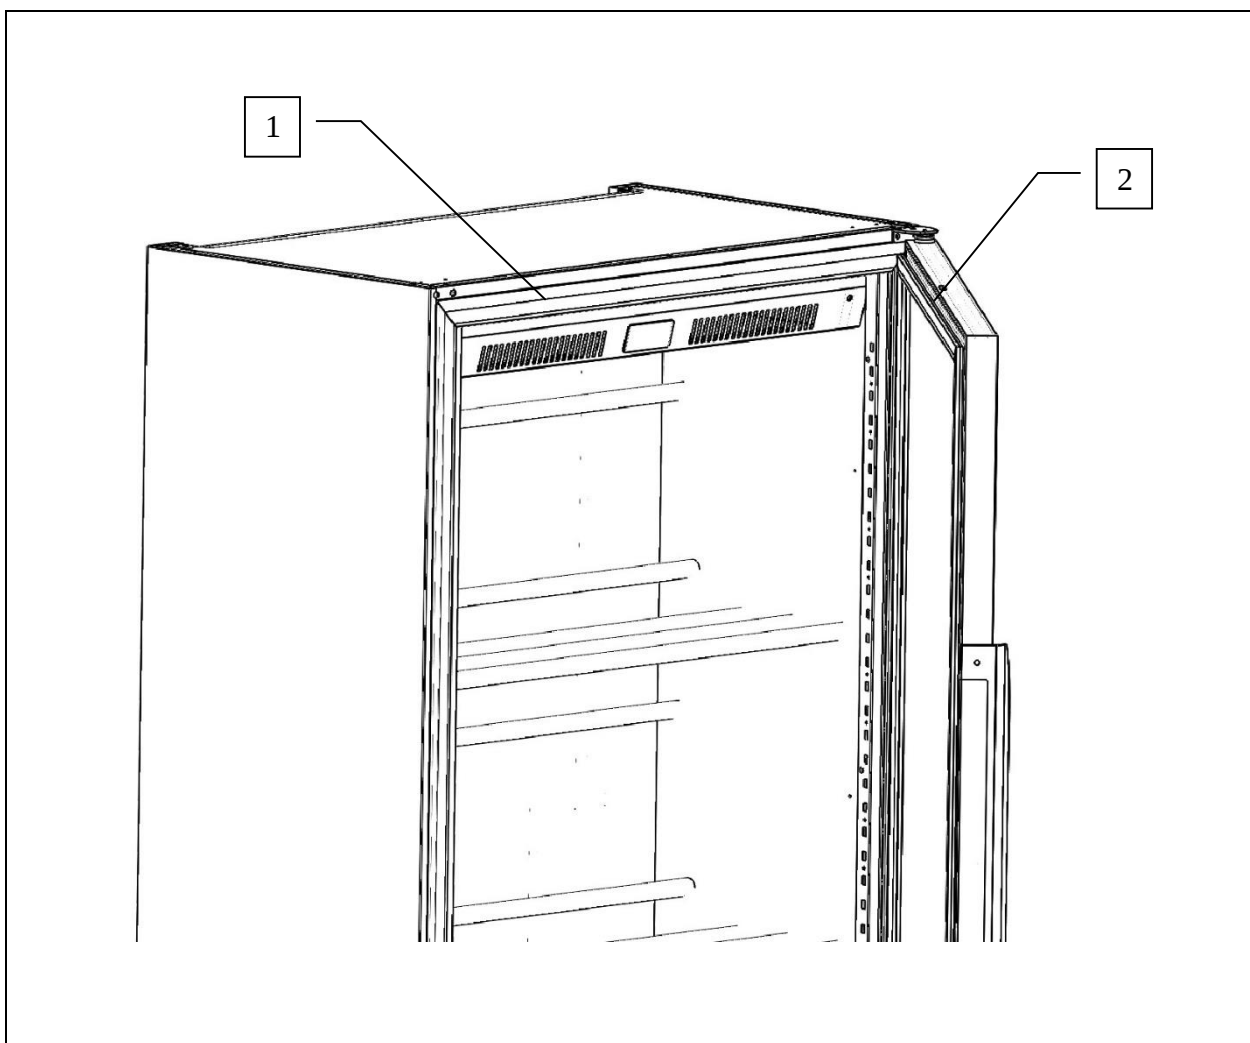

Fig. 9
Carefully clean the cabinet interior, the contact surfaces of where the door closes (ref. 1 fig. 9) and the gasket (rif. 2 fig. 9), using a sponge soaked with neutral detergent, neither of which must be abrasive. Rinse thoroughly using a clean sponge soaked with water and then wipe dry using a clean cloth.